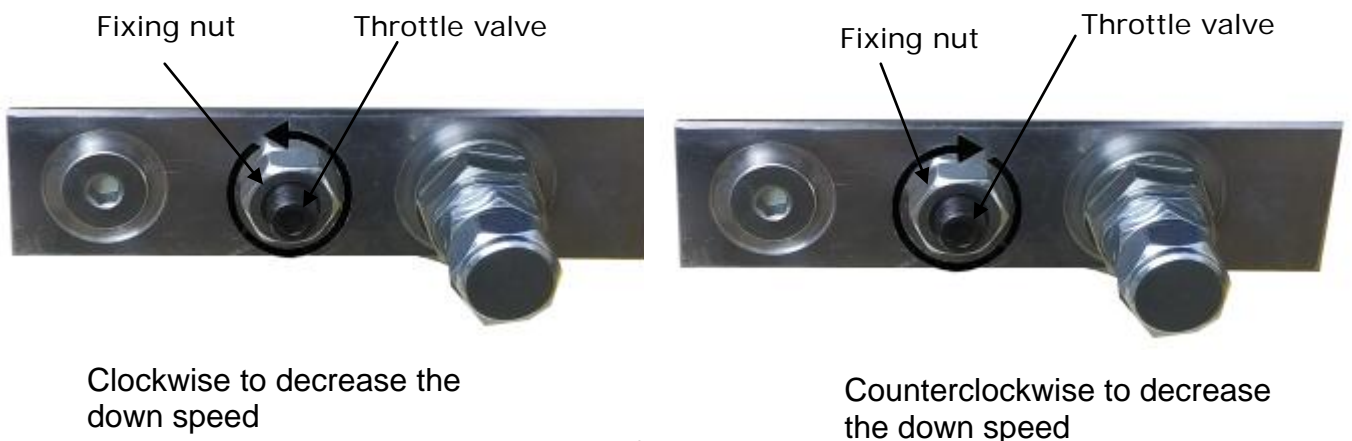

Fig.28
1. Adjust the lower speed (Fig.28)